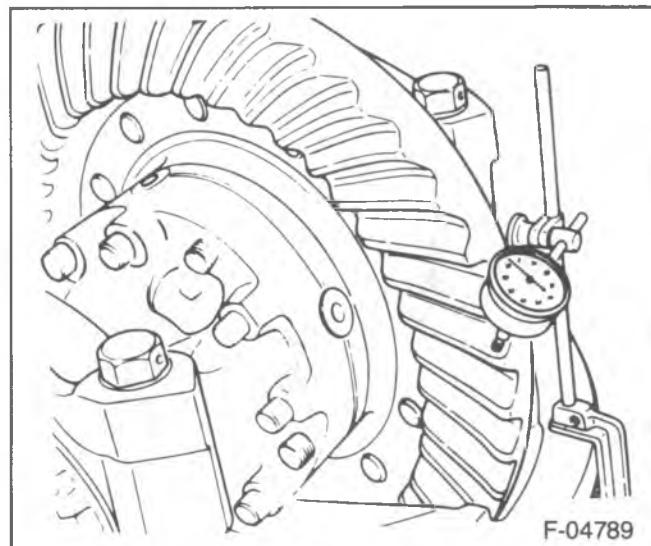

Figure 189—Checking Backlash
- Mount a dial indicator to the carrier (46). Place the stem of the indicator onto the toe end of a tooth (figure 189).